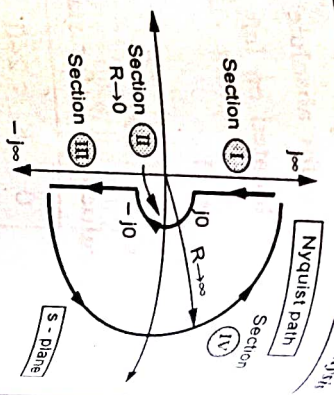

Fig. Q.25.1(a)
Step 3 : The Nyquist plot is shown in the Fig. Q.25.1(a).